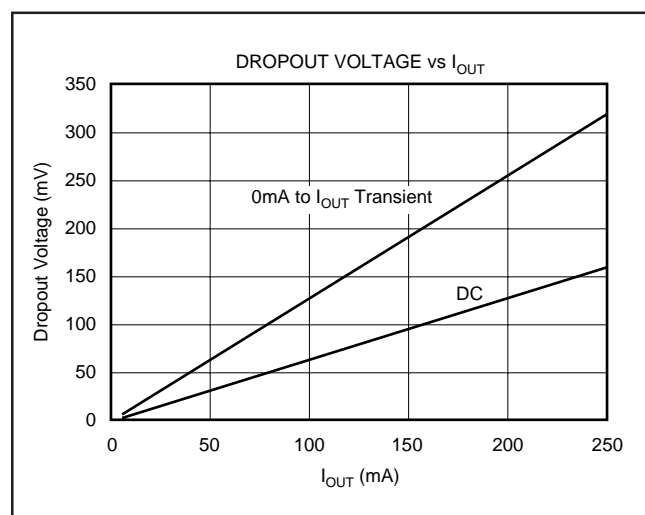

FIGURE 6. Transient and DC Dropout.
The REG102 uses an N-channel DMOS as the pass element. When $(V_{IN} - V_{OUT})$ is less than the drop-out voltage (V_{DROP}), the DMOS pass device behaves like a resistor; therefore, for low values of $(V_{IN} - V_{OUT})$, the regulator input-to-output resistance is the $R_{DS(ON)}$ of the DMOS pass element (typically 600m Ω). For static (DC) loads, the REG102 typically maintains regulation down to a $(V_{IN} - V_{OUT})$ voltage drop of 150mV at full rated output current. In Figure 6, the bottom line (DC dropout) shows the minimum V_{IN} to V_{OUT} voltage drop required to prevent dropout under DC load conditions.
For large step changes in load current, the REG102 requires a larger voltage drop across it to avoid degraded transient response. The boundary of this transient drop-out region is shown as the top line in Figure 6 and values of V_{IN} to V_{OUT} voltage drop above this line insure normal transient response.